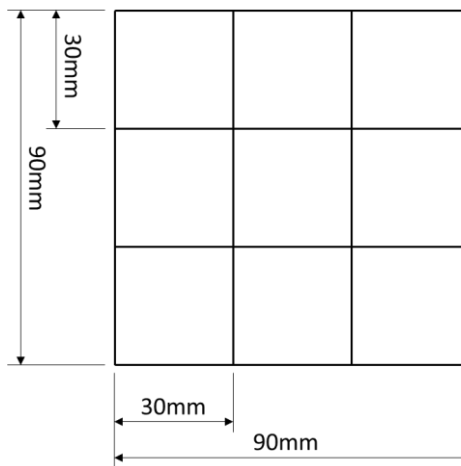

Figure 3: Grid configuration and dimensions
- Generate commands to draw the grid if required. The dimensions for the grid are shown in Figure 3.